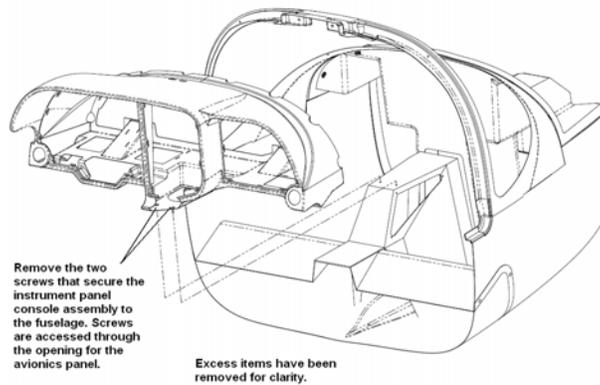

Figure 53-15 Location of the Two Screws that Secure the Instrument Panel Console to the Center Console
24. Remove the two screws that hold the instrument panel console assembly to the center console. See Figure 53-15 for the location of the two screws.